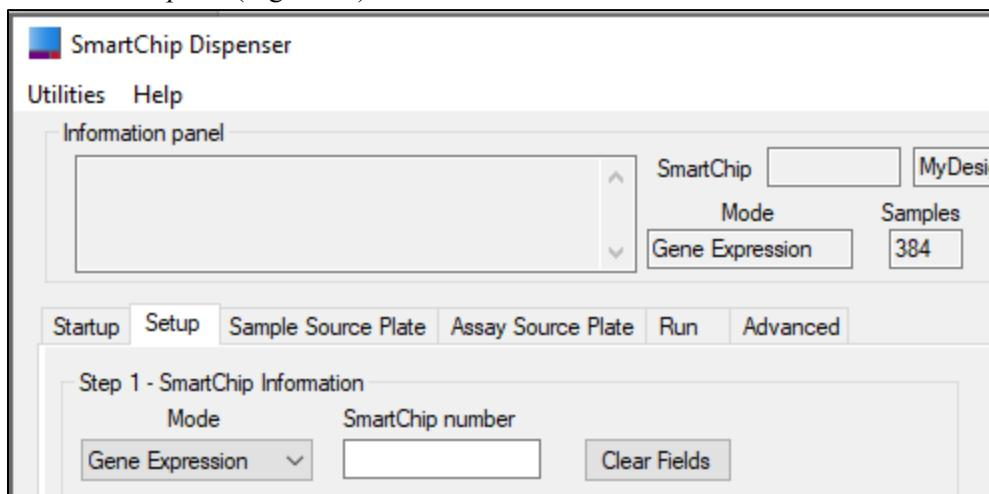

Figure 25. *Setup* tab in the SmartChip Dispenser Software.
1. Click the *Setup* tab (Figure 25).
**NOTE:** If a 250-nl chip type was specified, the ‘Predisposed’ option will be grayed out as in Figure 25, below).